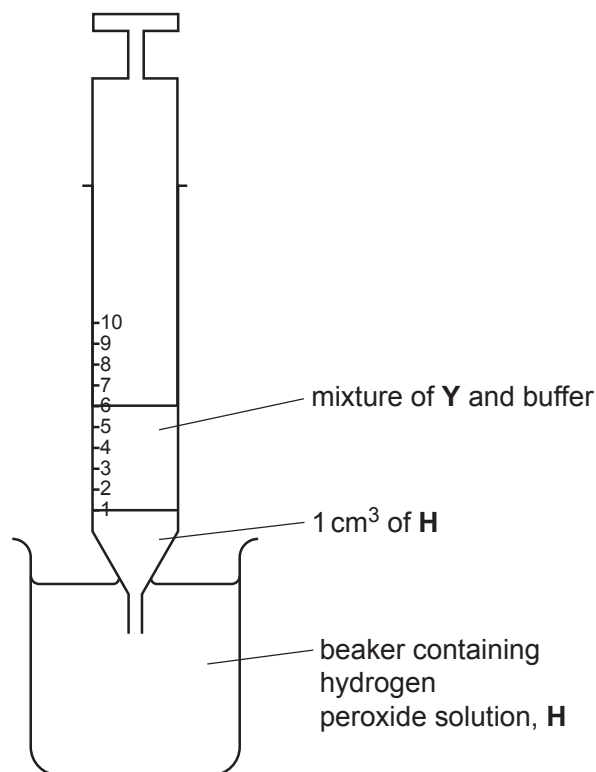

Fig. 1.4
- Pull the plunger out to the 6 cm^3 mark so that approximately 1 cm^3 of **H** enters the syringe, as shown in Fig. 1.4.